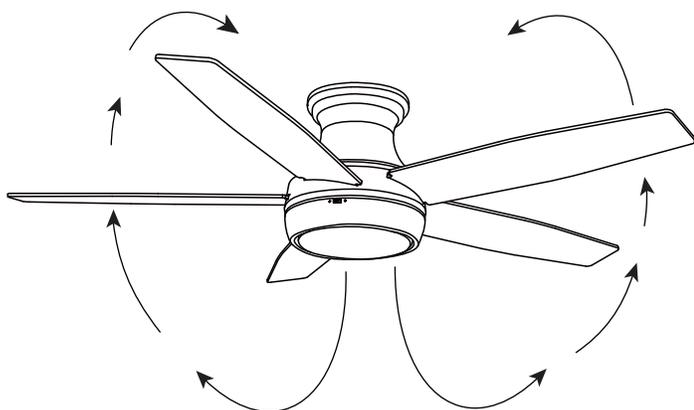

Figure 14
* Warm weather - (Forward) A downward air flow creates a cooling effect as shown in Figure 14. This allows you to set your air conditioner on a higher setting without affecting your comfort.